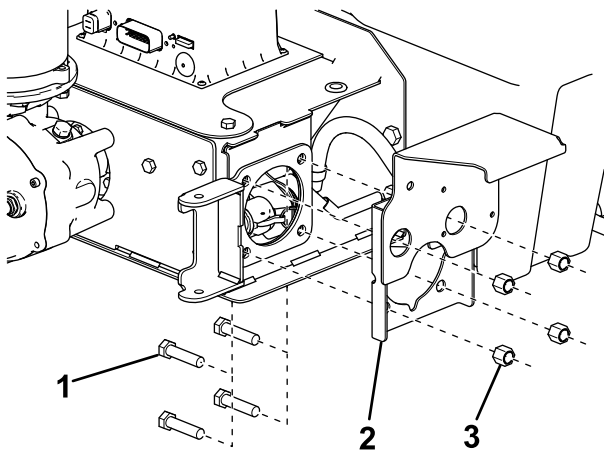

**Figure 18**
4. If you have a pintle chain Forge spreader, continue to step 7. For the auger Forge spreaders, remove and retain the 4 bolts and nuts securing the right spinner-assembly pin lock and auger sideplate to the auger assembly (Figure 18).
5. Slide 1 of the edge covers onto the opening in the auger assembly (Figure 18).